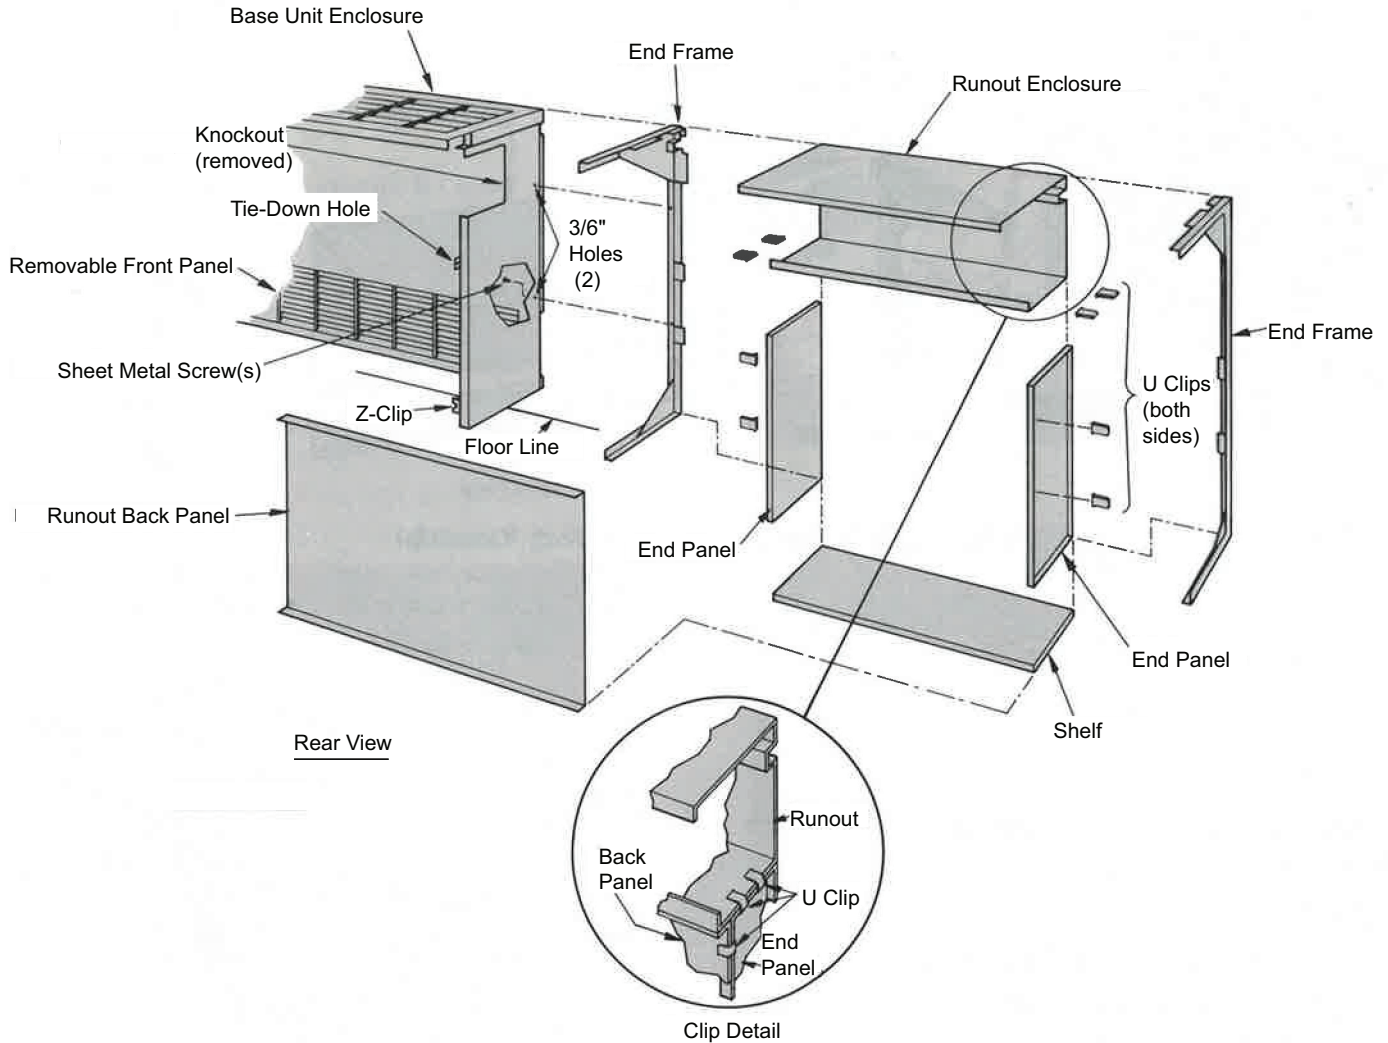

Fig. 11 — Column-to-Column Enclosure with Shelving
1. Drill two 3/16 in. holes for attaching runout. See Fig. 11.